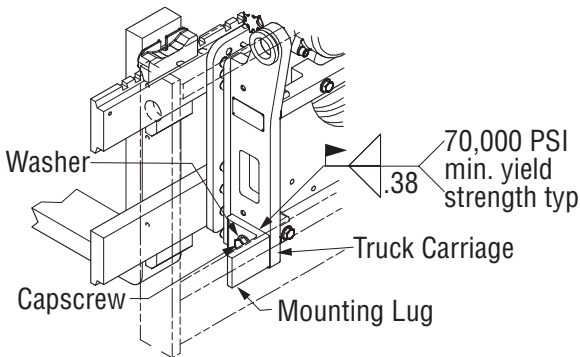

Figure 4-2, Pin-Mount Lug
3. Install the pin-mount attachment to truck carriage. Using the attachment as a template, weld on the bracket lugs, supplied with the attachment, to lower bar on the truck carriage. (Figure 4-2)
4. Weld the bracket lugs with 7018 welding rod, or equivalent, on each side of the truck carriage. Use provided capscrews to secure attachment to truck carriage. (Figure 4-2)